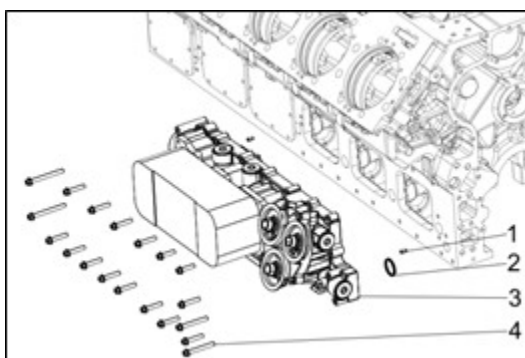

Figure 152
5. Remove the oil cooler seat (Fig 152, item 3), loosen the fixed bolts (Fig 152, item 4), remove the oil cooler seat, pay attention to the O-ring (Fig 152, item 2), remove the locating pins (Fig 152, item 1) if necessary.